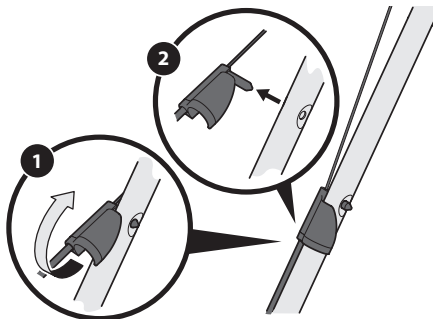

Figure 30
1. Rotate the drive cable fitting located on the left upper handle upward (Figure 30).